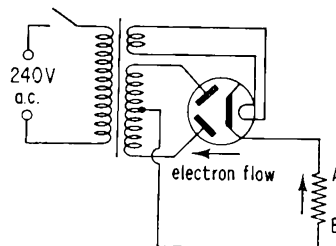

Fig. 314
An indirectly heated double-diode rectifier is illustrated in Fig. 314. Compare this with the circuit of the low voltage power supply. *Can you suggest any disadvantages of the thermionic full-wave rectifier?* (35) *Is A or B the positive output terminal?* (36)